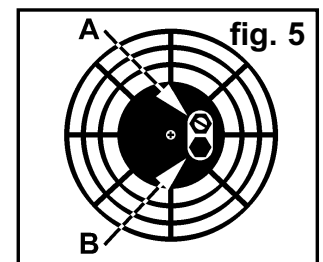

fig. 5
The heater has been factory pre-set for paraffin and will produce the correct heat output when first used from new. You should run the heater at the pre-set output in order to ensure the long life, safety and reliability of the unit. Minor adjustments to heat output may be required during the first 60 hours of use. These adjustments are made to the air pressure valve (see fig.5.A). Once the unit has completed the running-in period it should not be necessary to alter the air pressure again until a new air filter is fitted or a change of fuel takes place.
- 5.1.4. To adjust the heat output, locate the air pressure valve (fig.5.A), which is in the centre portion of the air inlet grill at the back of the unit. Hold the adjusting screw steady with a screwdriver and loosen the locking nut. Turn the screw clockwise to increase the air pressure and thus increase the heat output. Turn the screw anticlockwise to decrease the air pressure and thus decrease the heat output. Make small adjustments only and give the heater time to stabilise before observing the effect on the colour of the dome. When the colour is normal as described above in section 5.1.3.(a) tighten the locking nut.
- 5.2.3. You will need to make a preliminary adjustment to the air pressure valve before turning the heater on. Locate the valve (fig.5.A) which is in the centre portion of the air inlet grill at the back of the unit. Hold the adjusting screw steady with a screwdriver and loosen the locking nut. Turn screw half a turn anticlockwise to decrease the air pressure, and thus decrease the heat output, to compensate for the hotter burning diesel fuel. Retighten the locking nut.
- 5.4.1. If there is any doubt about the efficient operation of the heater, the air pressure should be checked more exactly using a pressure gauge which will measure up to 30 p.s.i. and has a 1/8" BSP thread. With the heater turned off and unplugged from the mains, remove the threaded plug from below the air pressure valve and attach the gauge, see fig.5.B. Start the heater and compare the pressure reading with the chart shown on the right. If the reading differs from the chart this indicates that maintenance is required as laid out in Section 6. You should also investigate whether the environmental conditions at the location of the heater are suitable, with particular reference to the amount and quality of the air supply.